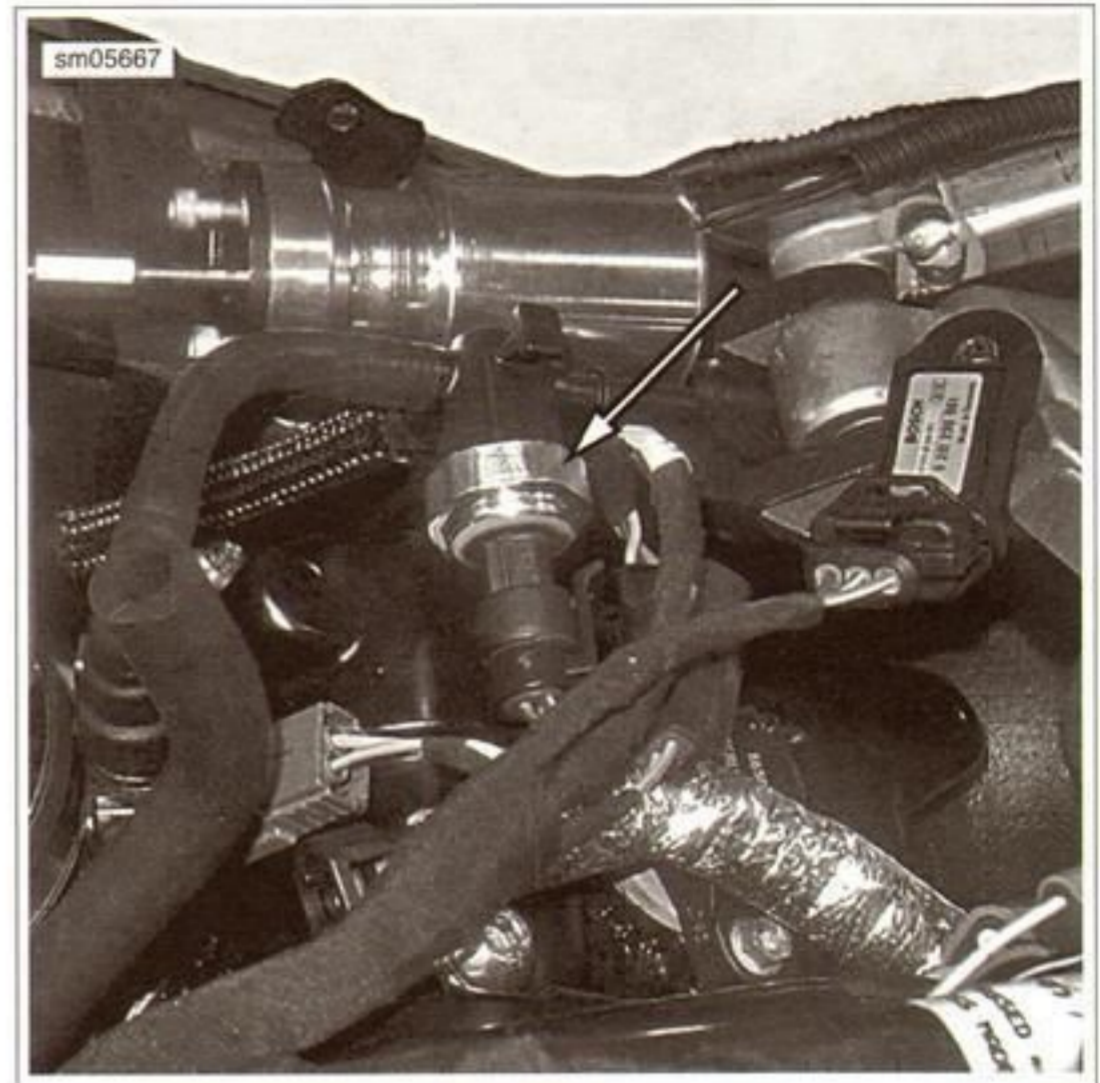

Figure 4-12. Fuel Pressure Sensor
5. See Figure 4-12. Separate the connector [227] housing from the fuel pressure sensor.